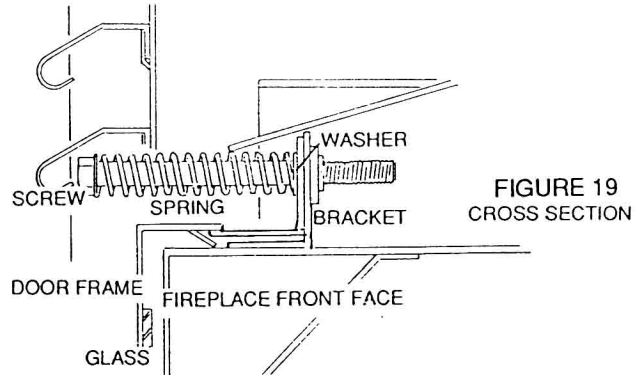

FIGURE 19
- Secure the glass door using the screws, washers and springs supplied. (Fig.19)